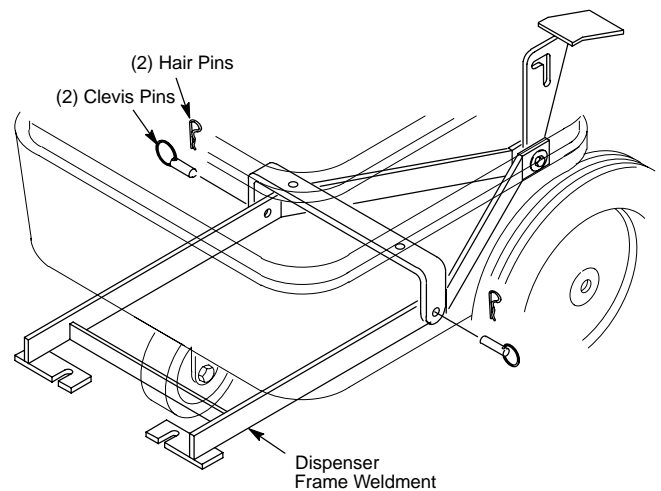

FIG. 3.
1. Place dispenser frame weldment under machine and fasten to mounting bracket that is factory installed. Use two clevis pins as shown, secure with two hair pins (Figure 3.).